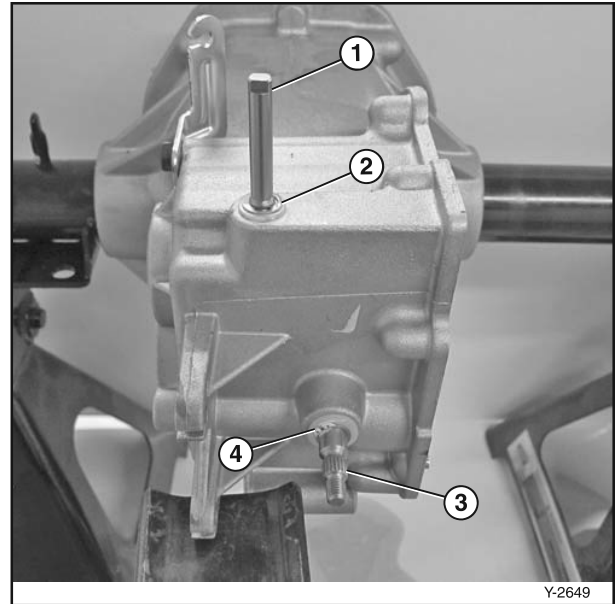

Figure 6-53
24. Remove the snap ring (**Figure 6-53, (2)**) and slide the governor shaft (**Figure 6-53, (1)**) inside the case to remove.
25. Remove the snap ring (**Figure 6-53, (4)**) and slide the shift lever (**Figure 6-53, (3)**) into the case to remove.